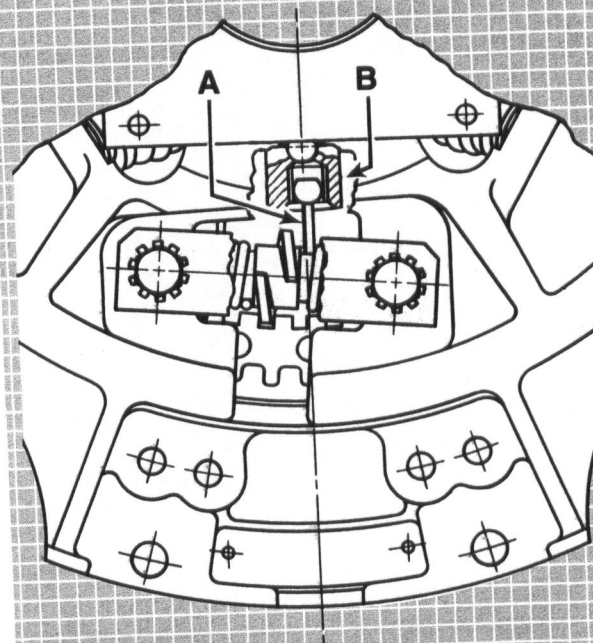

FIGURE 60
Visually check to see if actuator arm (A.) is inserted into release sleeve retainer (B). (Fig. 60) If adjusting assembly is installed properly, the adjuster assembly spring will move back and forth as pedal is stroked.